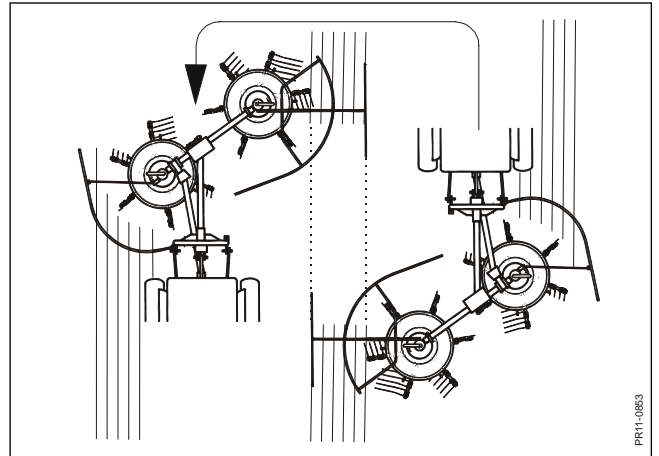

Fig. 3-26
**Fig. 3-26** over 11' mower or combined harvester.